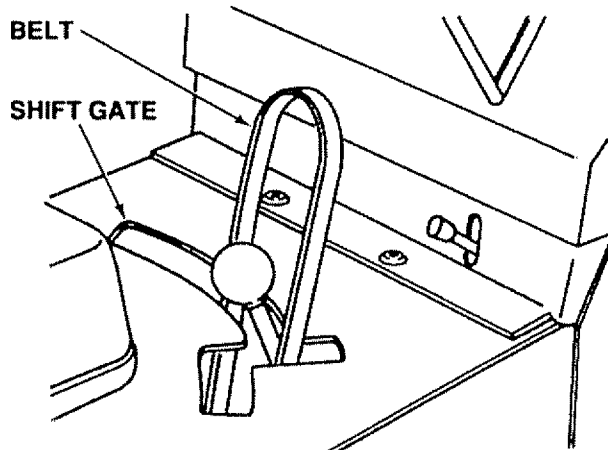

FIGURE 24
- Pull belt out through shift gate to remove from tractor (Fig. 24).